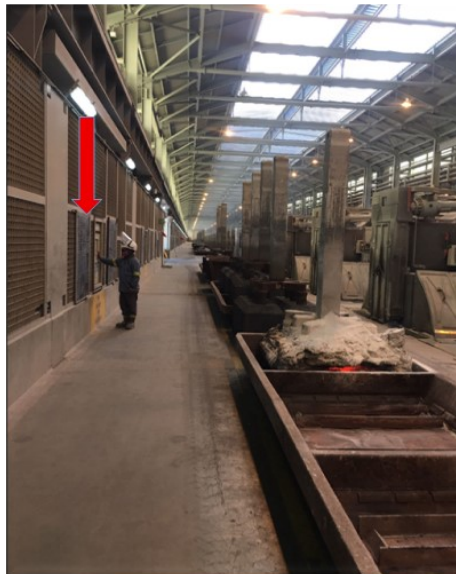

Figure 1. Operator giving AC command.
Anode change (AC) and covering is one of the most frequent and essential activities in the pot room at Maaden Aluminium, with approximately 600 anodes replacing daily to maintain optimal cell performance. These operations are structured around a 25.5-day anode change cycle, with each pot room/shift typically assigning a single operator (Figure 1) to perform the following tasks: